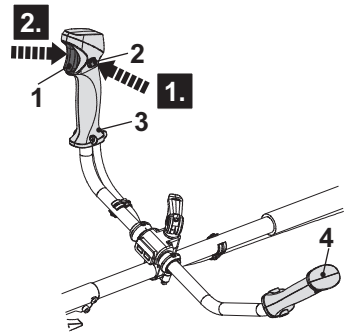

Fig. 19
1. Hold the product with one hand at the lefthandle bar (4) and with the other at the righthandle bar (3).
2. Press the lock-off button (2) and hold it in position (Fig. 19, step 1).
3. Squeeze the on/off switch (1) to switch the product on (Fig. 19, step 2). Release the lockoff button (2) afterwards.
4. Release the on/off switch (1) to switch the product off.